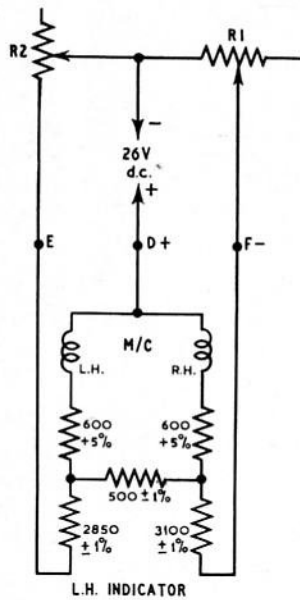

Fig. 3. Test circuit diagram
7. Set the resistance boxes to be used as R1 and R2 to 490 ohms and 3010 ohms respectively. Connect the left-hand indicator to the test circuit as shown in fig. 3. Set R1 and R2 to each set of values shown in Table 1, in turn. Tap the indicator lightly at each setting and check that, for both increasing and decreasing scale values, the indicator pointer indicates within the values shown in Table 1. Disconnect the indicator from the test circuit.